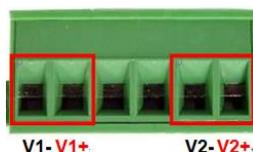

Figure 2.7 - Power Terminal Block
1. Insert the positive and negative wires into the PWR1 (V1+, V1-) and PWR2 (V2+, V2-) contacts on the terminal block connector as shown below in *Figure 2.7*.